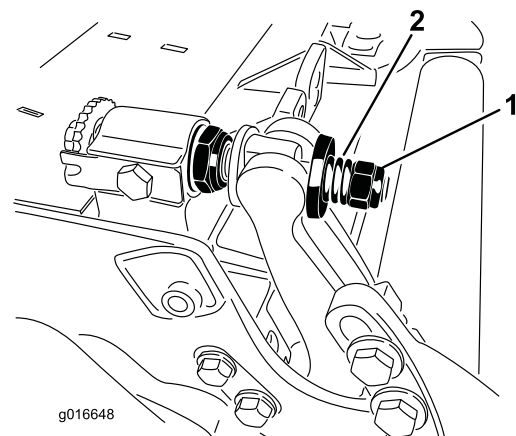

Figure 31
4. Tighten spring tension nut until spring is collapsed, then back off 1/2 turn (Figure 31).
10. Tighten the nut on each bedbar adjuster assembly until the compression spring is fully compressed, then loosen nut 1/2 turn (Figure 31).